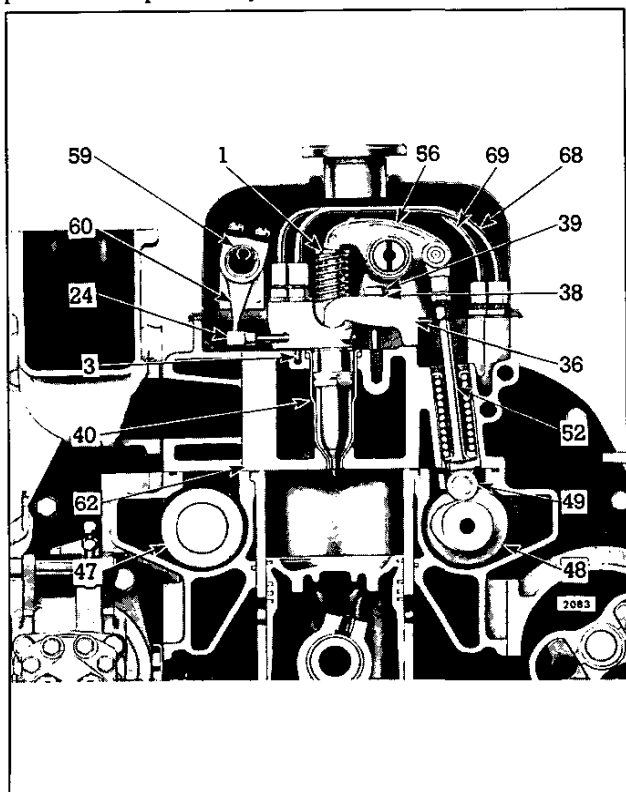

Fig. 5 - Fuel Injector Mounting
The motion of the injector rocker arm is transmitted to the plunger by the follower which bears against the follower spring (Fig. 5). In addition to the reciprocating motion, the plunger can be rotated around its axis by the gear which meshes with the control rack. To accomplish fuel metering, an upper helix and a lower helix are machined in the lower part of the plunger. The helix relationship to the ports changes with the rotation of the plunger.
2. Remove the fuel pipes from both the injector and the fuel connectors (Fig. 5).